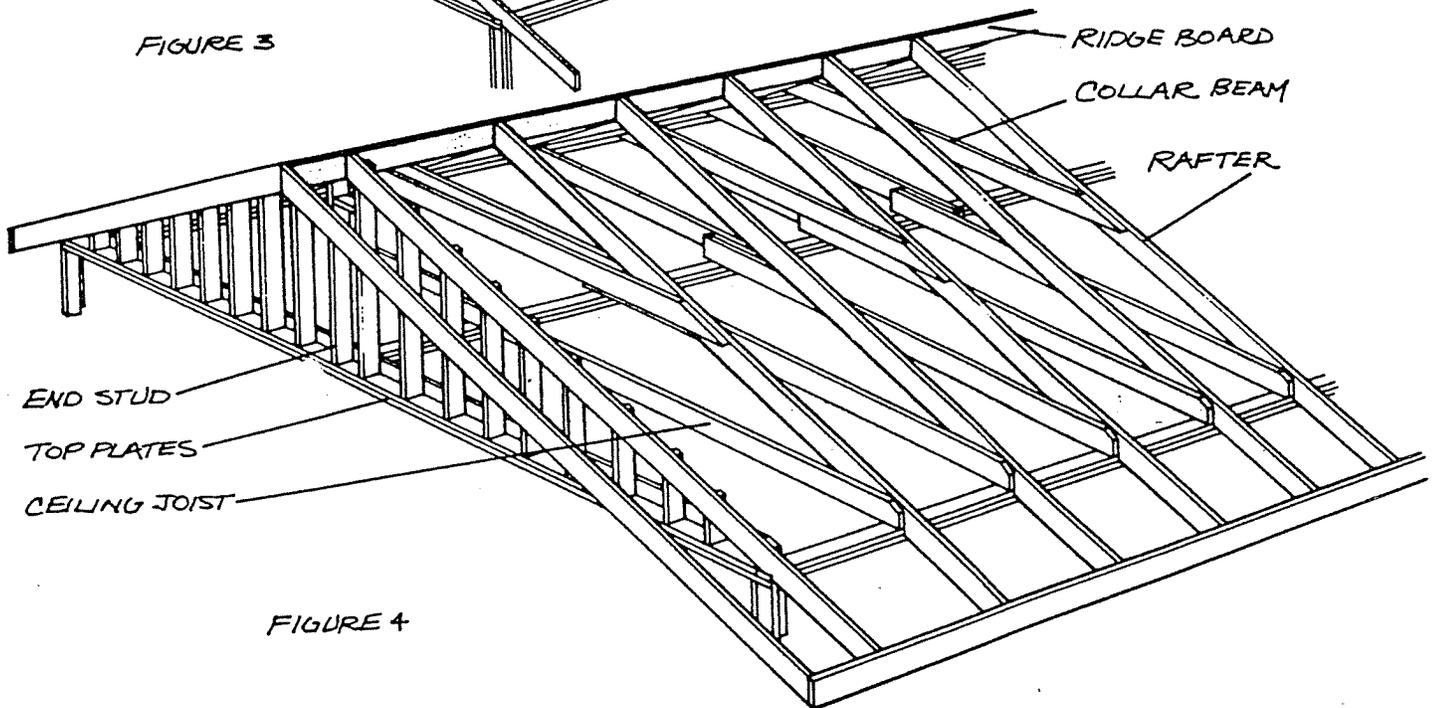

FIGURE 4
5. Install ceiling joists and toenail to the top plate of the exterior walls with two 10d nails on each side. At the center lap, nail the joists to the filler block, and then toenail to the plate of the load-bearing wall or beam (Figure 4). Since the ceiling rafters are supplying the tie across the building, they must be well spiked. For a 24 ft. wide building, with ceiling joists and roof rafters both at 24 in. spacings, four 16d nails are required from each ceiling joist into the filler block. Tie together ceiling joists and the non-bearing walls that run parallel to them, as in Figure 5. As with floor framing, place ceiling joists with the crown up.
6. Cut remaining rafters. For a 48 ft. house with rafters spaced 24 in. o.c., you will need 24 more pairs cut to the pattern (25 total pairs). In addition, you will need two pairs of fascia rafters for the ends of the gable overhang (Figure 4). Since they cover the end of the ridge board, they must be longer than the pattern rafters by half the width of the ridge board. Fascia rafters will have the same cuts at the top and bottom as the regular rafters, but they will not have a seat cut.
13. Cut and install 1 x 6 collar beams at every other pair of rafters (4 ft. o.c.); see Figure 4. Nail each end with four 8d nails. Collar beams should be in the upper third of the at crawl space. Remove temporary props.
15. Cut and install fascia board to correct length of ridge board. Bevel the top edge to roof slope. Nail the board to rafter ends, then install fascia rafters. Fascia rafters cover the end of the ridge board (see Figure 4). Where nails will be exposed to weather, use hot-dip galvanized or other non-staining nails.